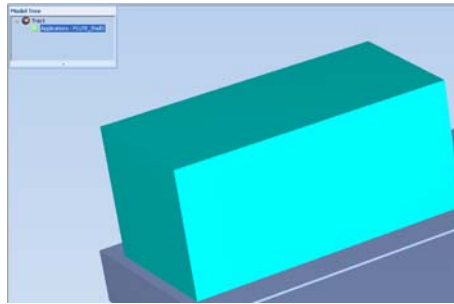

Figure 5-36: Model displayed with bounding box
- With a *Bounding Box* (see figure 5-36 on page 30)